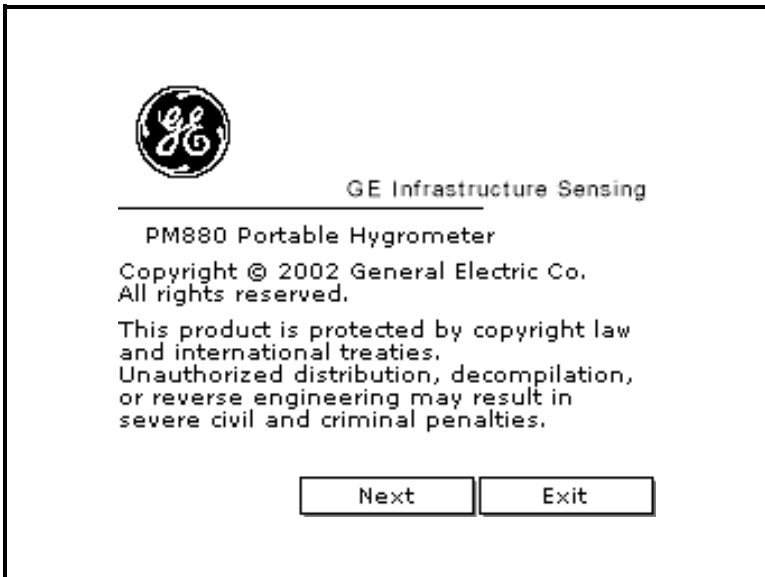

Figure 4-14: The About Window
3. Use the arrow key to scroll to **About** and press [ENTER]. A screen similar to Figure 4-14 below appears.